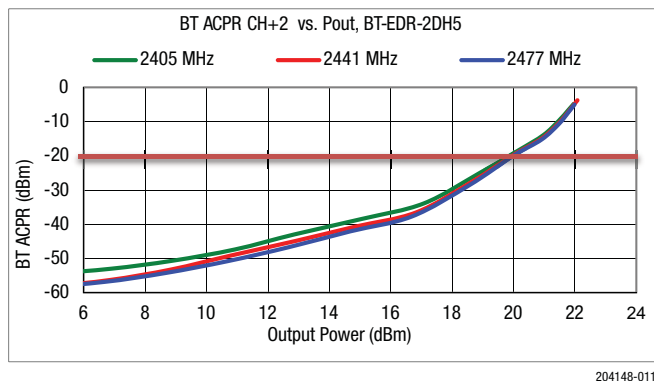

Figure 11. BT ACPR CH+2 vs Pout, BT-EDR-2DH5
The SKY66403 in high-linearity (HL) mode benefits from excellent adjacent channel power (ACP) performance in Bluetooth EDR applications. Typical ACP measurements for both EDR modulations ( $\pi/4$ -DQPSK with 2-DH5 packets and 8-DPSK with 3-DH5 packets) are shown in Figures 11 through 14.